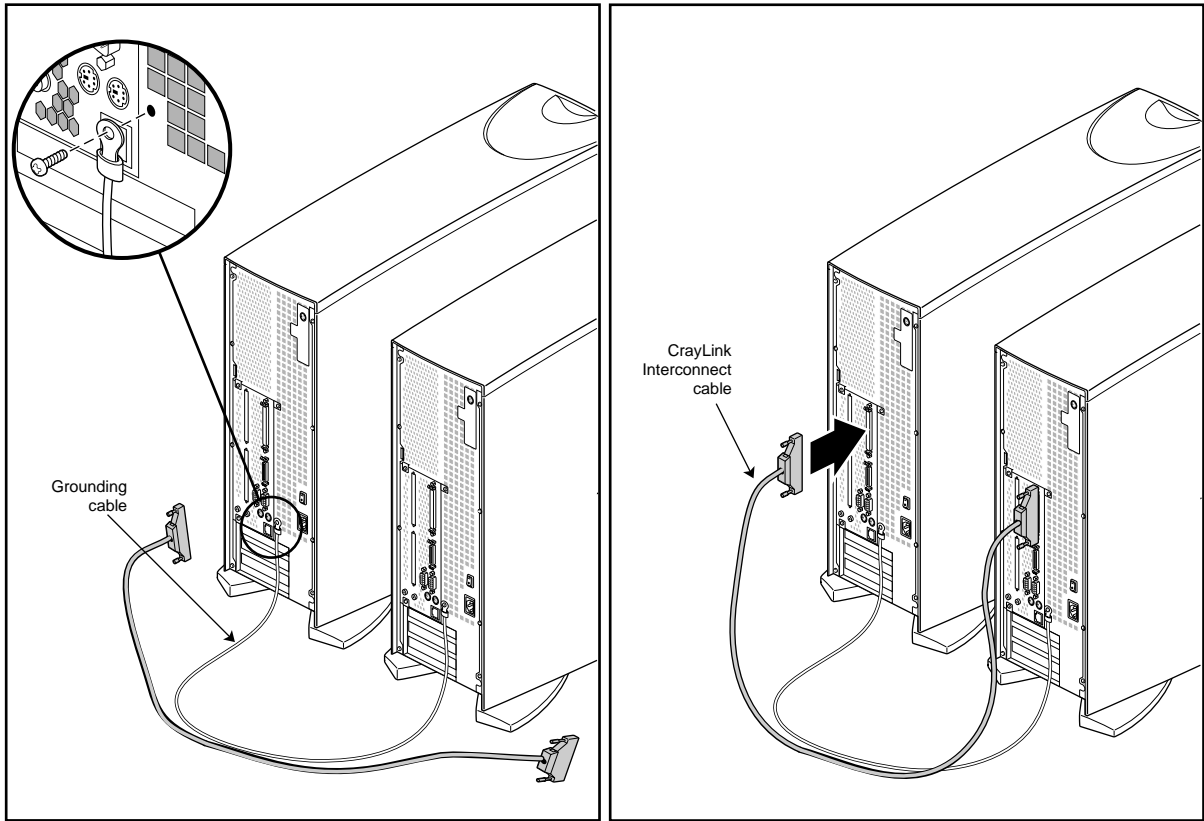

Figure 2-22 Attaching the Grounding and CrayLink Cables
6. Connect the grounding cable and CrayLink cable between the two chassis, as shown in Figure 2-22.